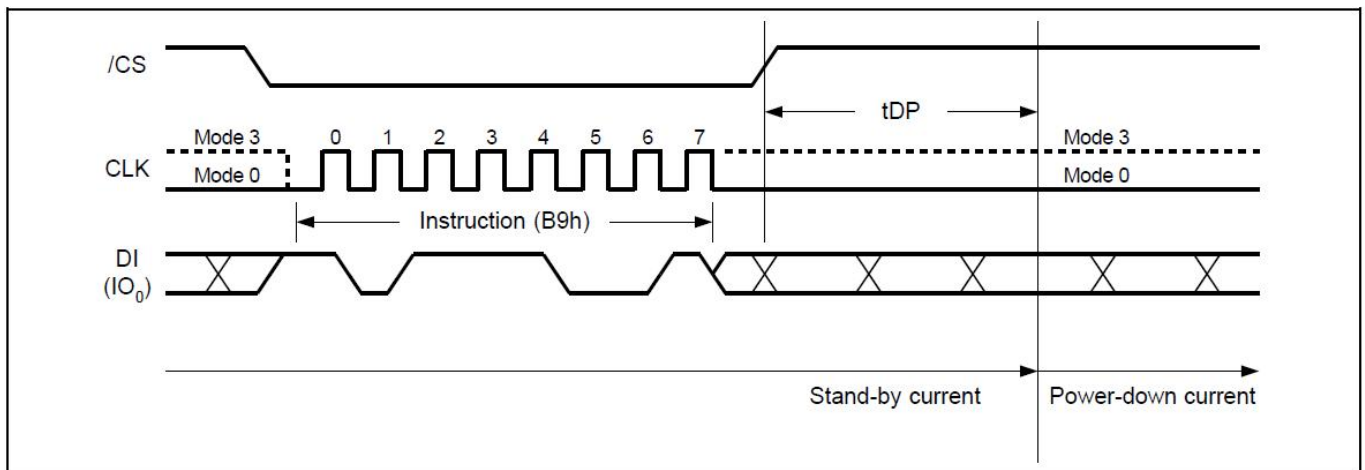

Figure20. Deep Power-Down Sequence Diagram
The Deep Power-Down Mode automatically stops at Power-Down, and the device always in the Standby Mode after Power-Up. The Deep Power-Down command sequence: CS# goes low → sending Deep Power-Down command → CS# goes high. The command sequence is shown in Figure20. CS# must be driven high after the eighth bit of the command code has been latched in; otherwise the Deep Power-Down (DP) command is not executed. As soon as CS# is driven high, it requires a delay of t_{DP} before the supply current is reduced to ICC2 and the Deep Power-Down Mode is entered. Any Deep Power-Down (DP) command, while an Erase, Program or Write cycle is in progress, is rejected without having any effects on the cycle that is in progress.